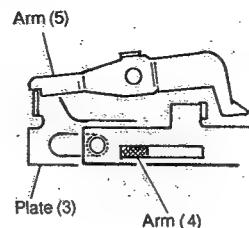

Fig. 9
2. For this purpose, Arm (5) is locked by Plate (3) until the cassette is positioned (see Fig. 9).